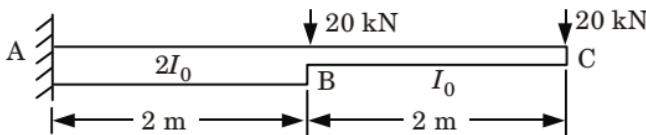

Fig. 11.
- b. Determine the deflection and rotation at the free end of the cantilever beam shown in Fig. 11. Use unit load method. Given  $E = 2 \times 10^5 \text{ N/mm}^2$ , and  $I = 12 \times 10^6 \text{ mm}^4$ .